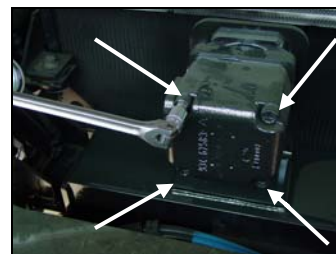

Figure 10 Remove housing connecting bolts
10. Remove the four pump housing connecting bolts. (Figure 10)